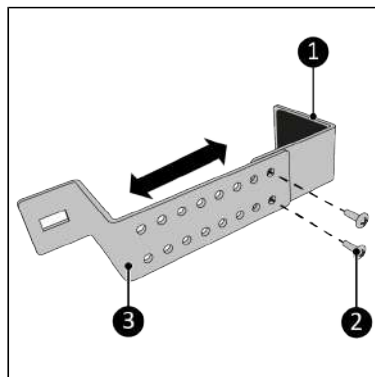

Figure 77.
3. Screw the top part (Figure 77, pos. 1) and the bottom part (Figure 77, pos. 3) together using the two M5 x 10 mm screws (Figure 77, pos. 2). Make sure the width is slightly larger than the width of the frame of the window.